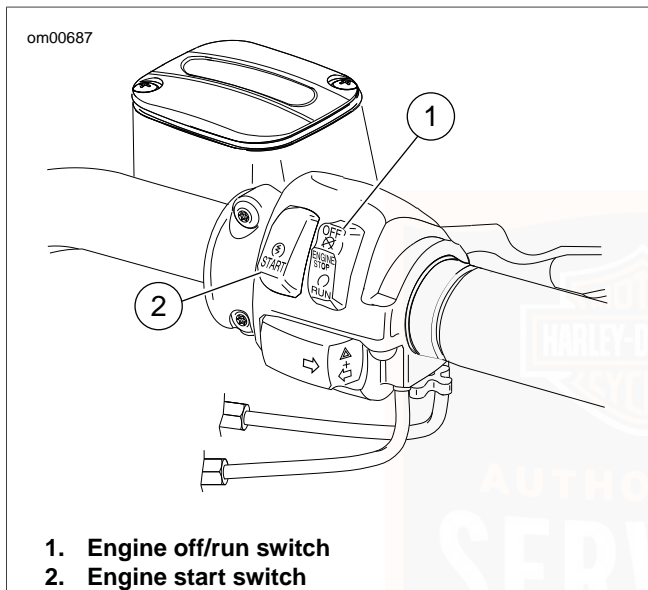

Figure 22. Right Handlebar Controls: VRSC Models
2. See Figure 22. Turn the off/run switch to RUN position.